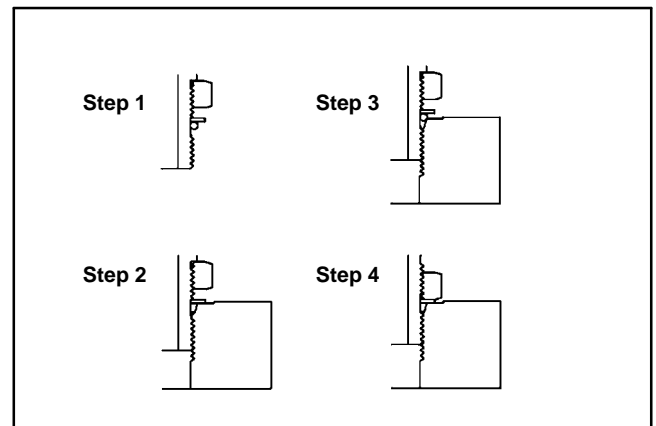

Figure 7
4. Turn back the lock nut as far as possible. Make sure the back up washer is not loose and is pushed up as far as possible (Step 1 in Figure 7).
5. Install the fitting into the port and tighten finger tight until the washer contacts the face of the port (Step 2 in Figure 7). Make sure that the fitting does not bottom in the port during installation.
6. To put the fitting in the desired position, unscrew it by the required amount to align fitting with incoming hose or tube, but no more than one full turn (Step 3 in Figure 7).
8. If a torque wrench is not available, or if space at the port prevents use of a torque wrench, an alternate method of assembly is the Flats From Finger Tight (F.F.F.T.) method. Hold the fitting in the desired position with a wrench and, if port material is steel, tighten the lock nut with a second wrench to the listed F.F.F.T (Step 4 in Figure 7). If port material is aluminum, tighten fitting to 60% of listed F.F.F.T.